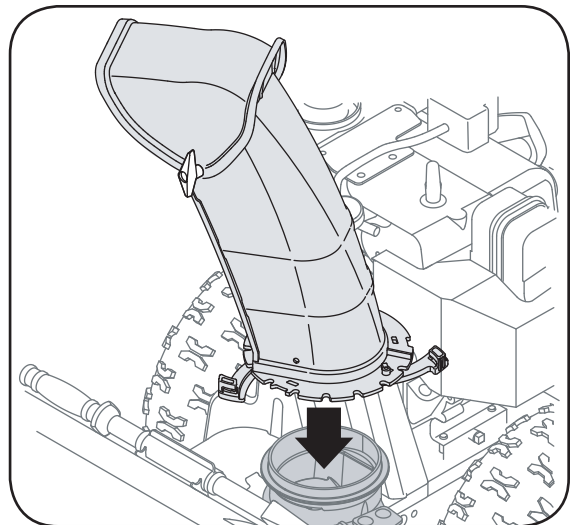

Figure 3-3
3. Position the chute assembly over the base, seated securely on adapter. See Figure 3-3.